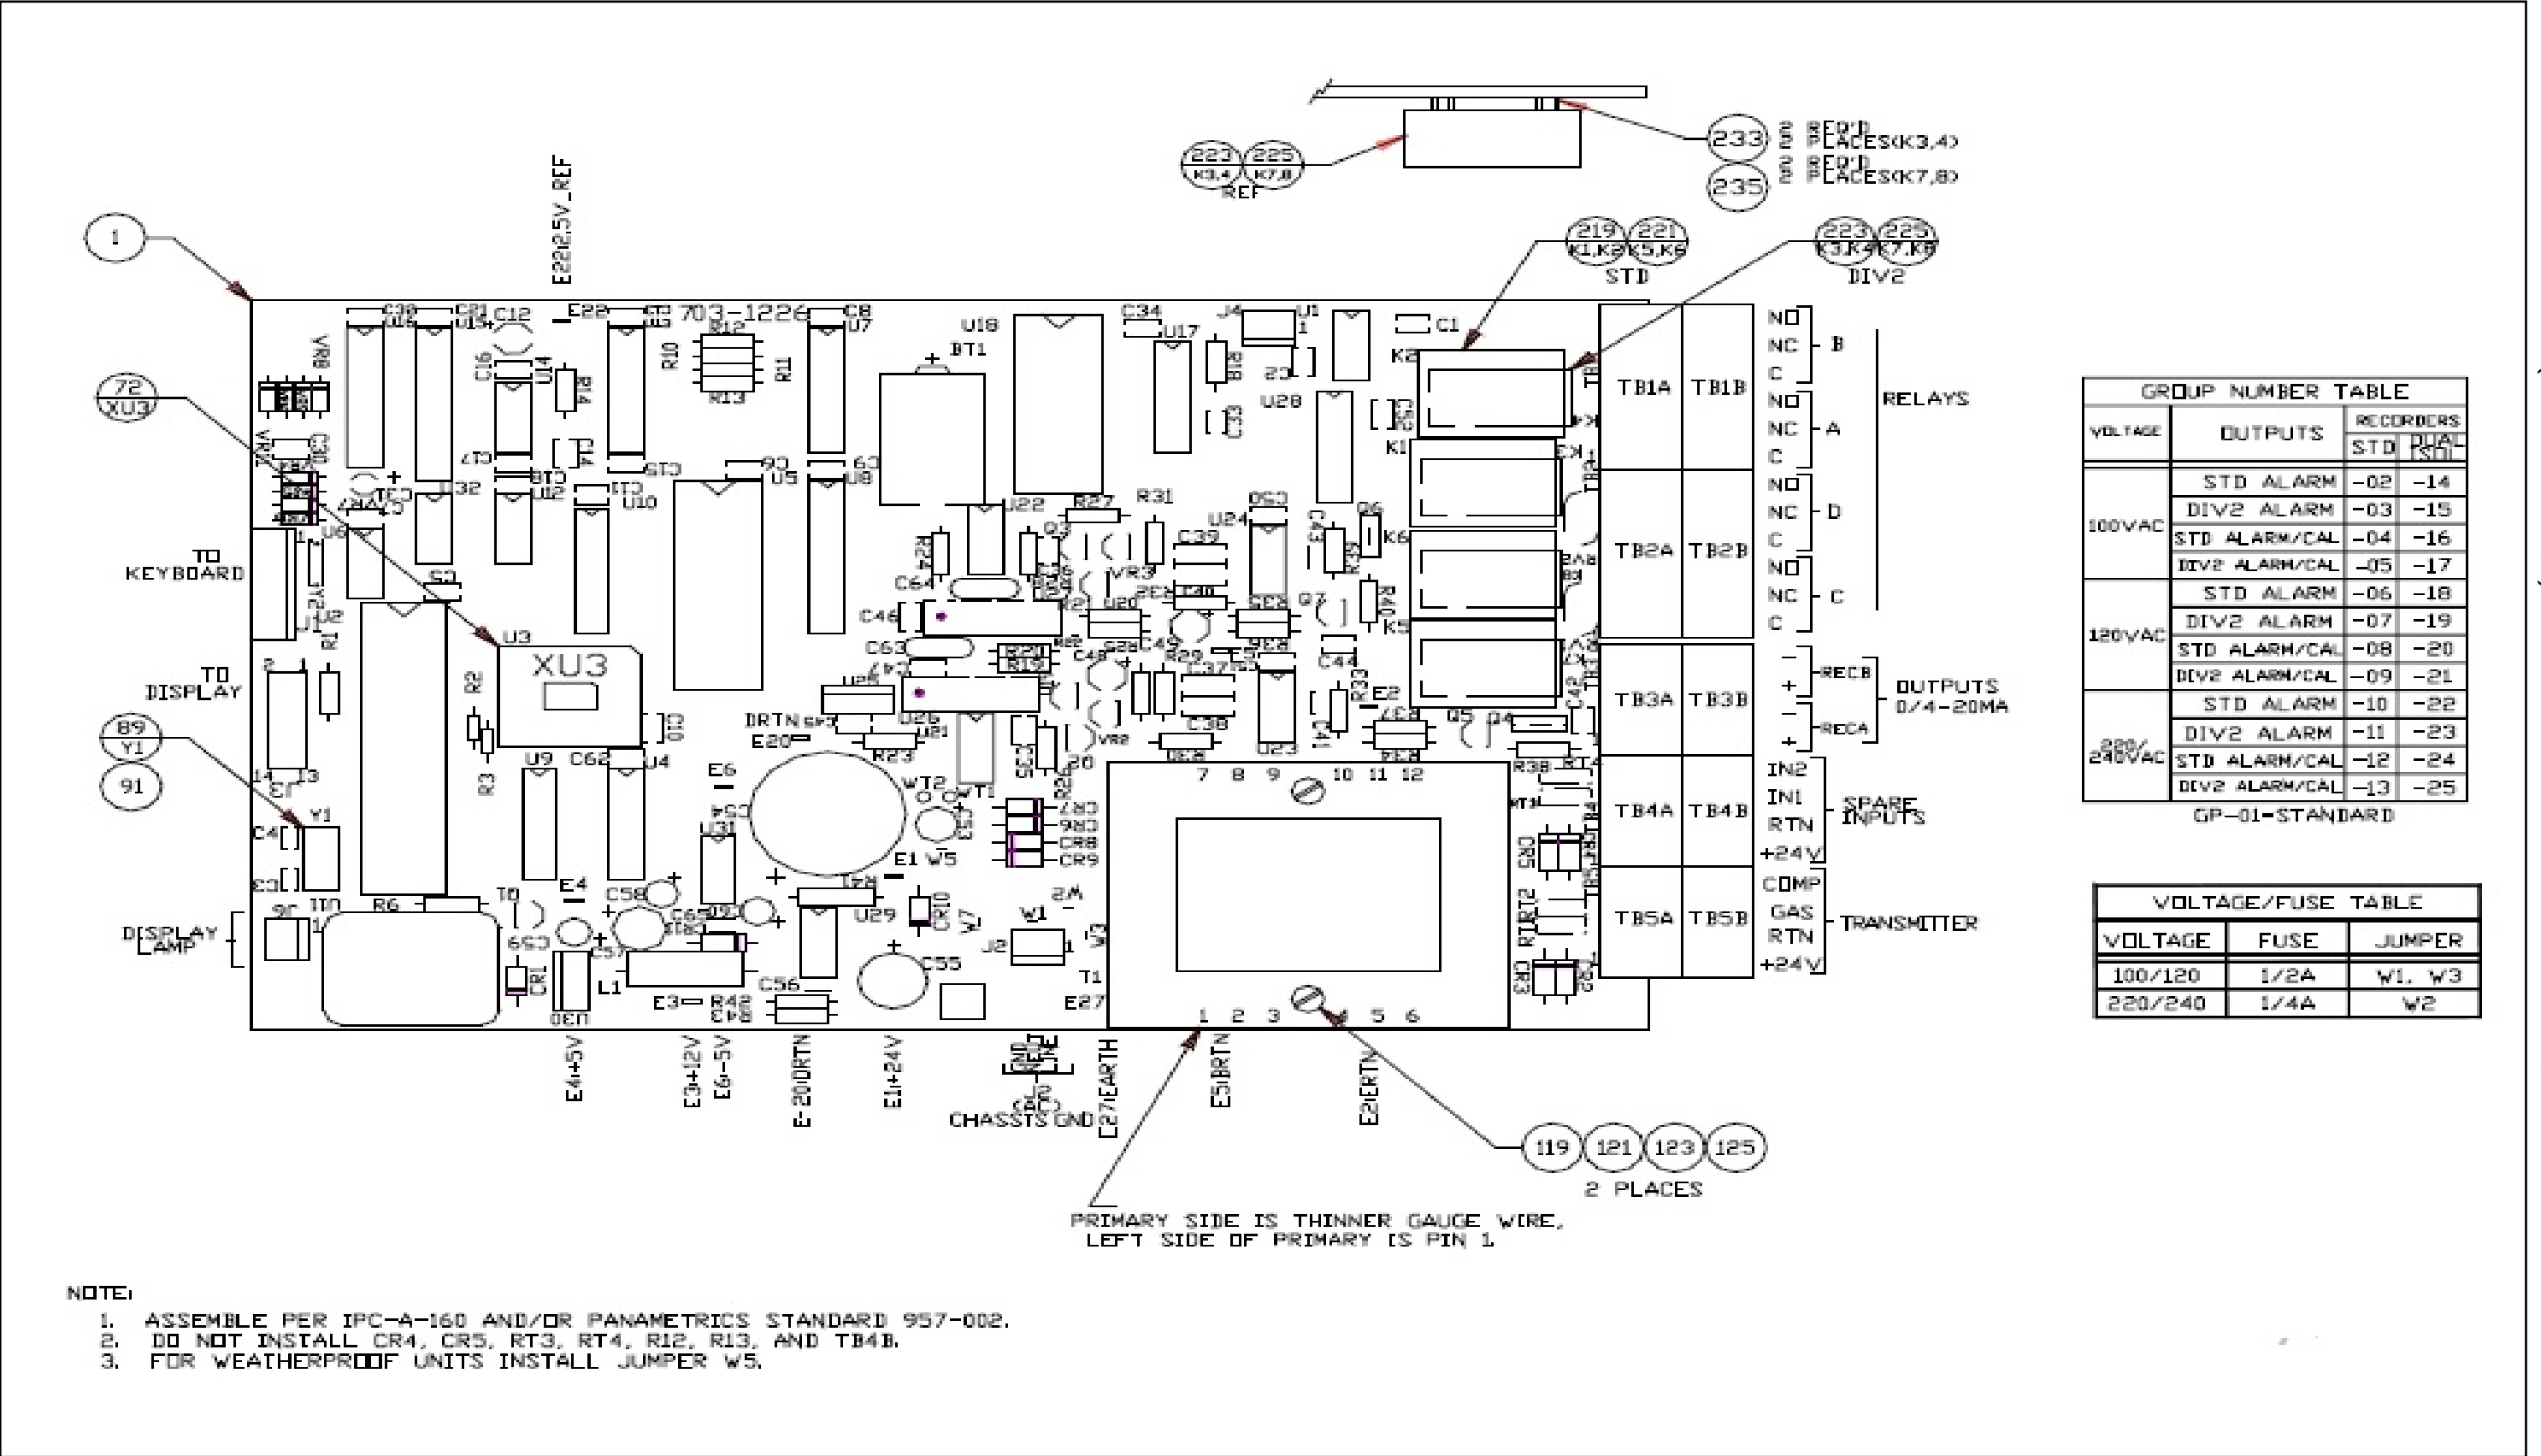

Figure 22: Oxygen Display PC Board Assembly (ref. dwg #703-1226)
- *Figure 22:* Oxygen Display PC Board Assembly